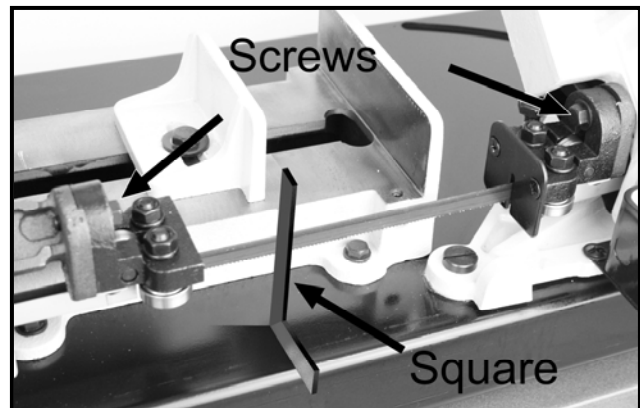

Figure-18 Squaring the blade to the base
2. Take a machinist's square and place it on the base as shown in figure-18.
4. If adjustment is necessary, loosen screw shown in figure-18 and rotate the blade guide slightly until the blade is square along its entire width with the base and re-tighten the screws.